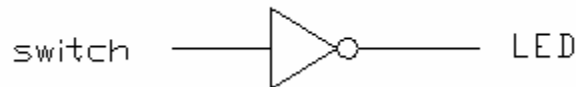

Figure 2
- 2- Using any of the gates in the IC, connect the circuit shown in figure 2.